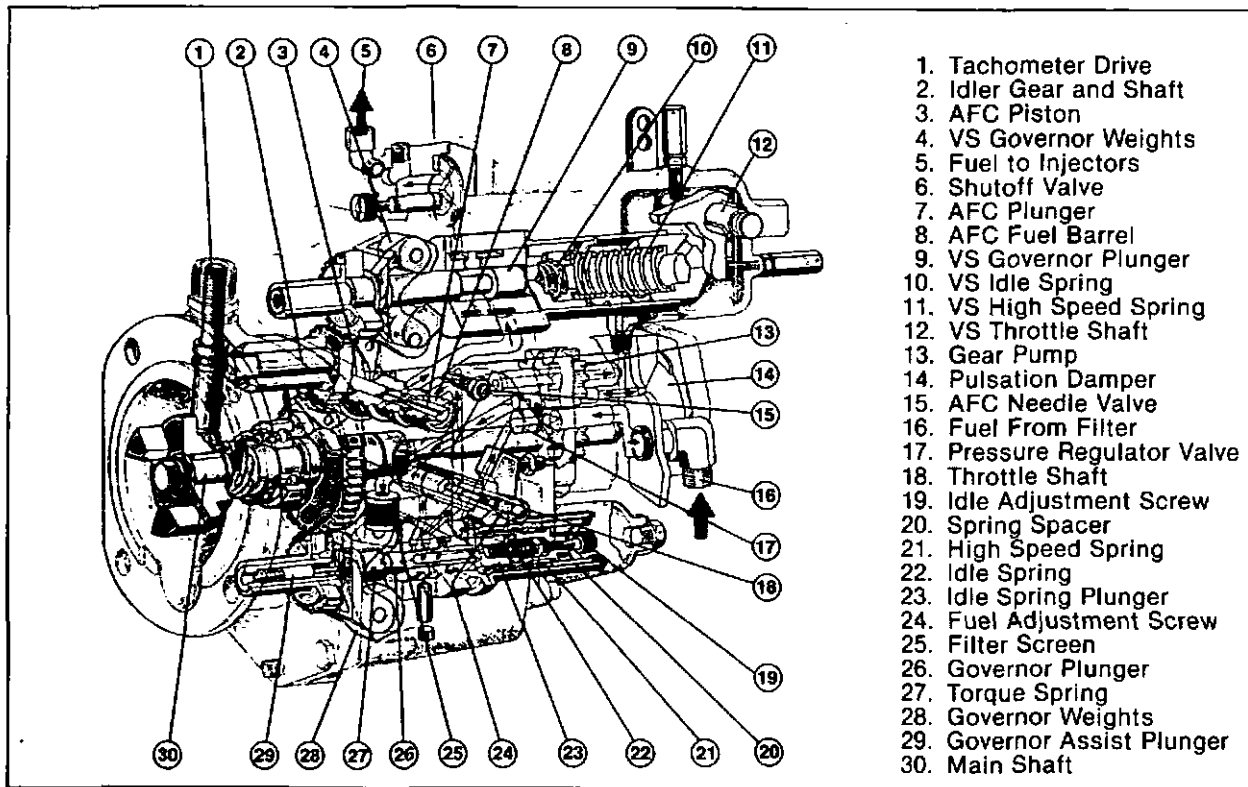
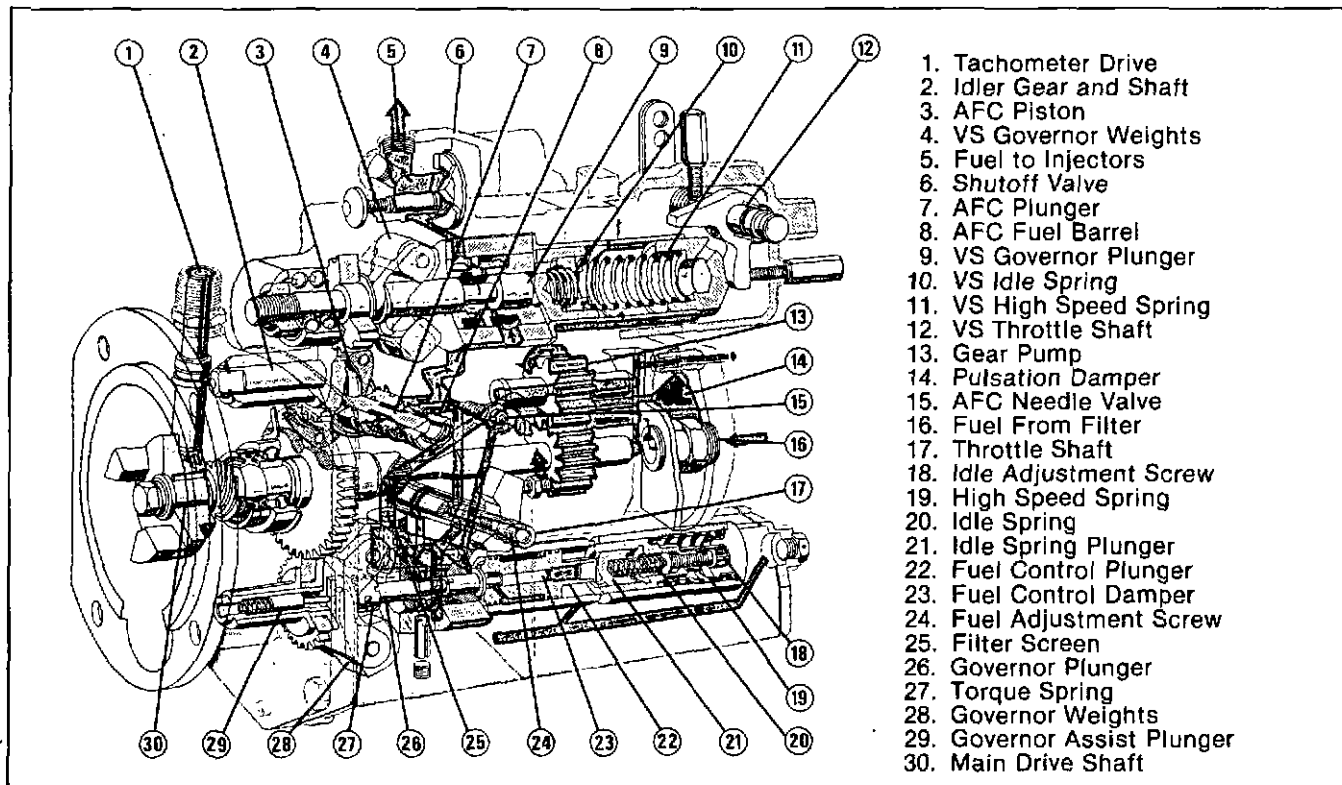
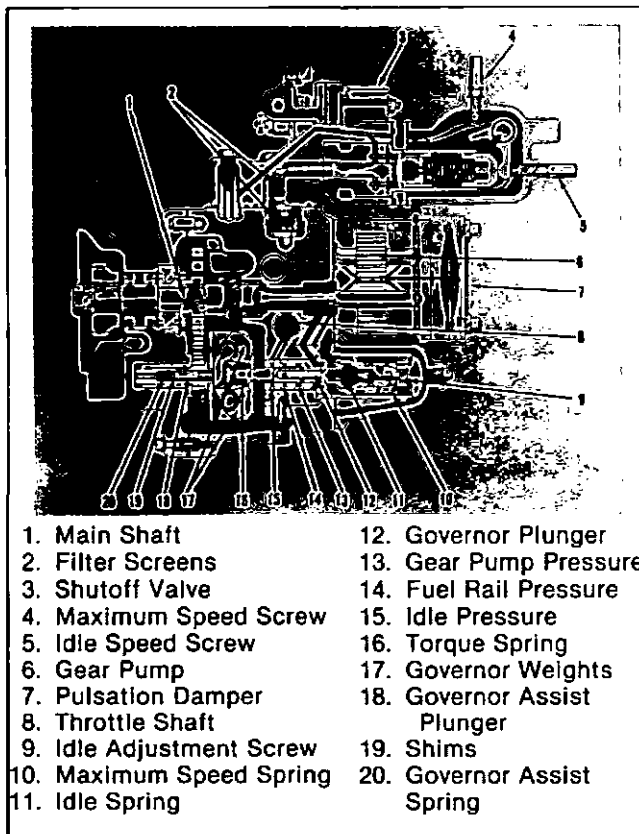

Fig. 15-3, (FWC-38). PT (type G) fuel pump with Variable Speed Governor and Air Fuel Control.
Fig. 15-4, (FWC-54). PT (type H) fuel pump cross-section.
Fig. 15-5 (FWC9A), PT (type G) with MVS Governor.
There are four mechanical variable-speed governors used with the PT (type G) fuel pump. The "Mechanical Variable-Speed (MVS)" governor is mounted directly on top the fuel pump or remote mounted near the fuel pump, Fig. 15-5. The "Variable Speed (VS)" governor is above the housing and front cover of a standard pump, Fig. 15-3. The PT (type H) fuel pump is now in use on the KTA-3067 engines. This pump is a **high flow** VS type of fuel pump, Fig. 15-4.
The VS governor has replaced the PT (type G) MVS, PT (type G) SVS and PT (type R) MVS. Fig. 15-3. This pump has a lower speed droop than those it has replaced.
The PT (type H) fuel pump is a high capacity VS type of fuel pump. This fuel pump was designed for the KTA-3067 engine, Fig. 15-4.
The adjustment for the different rpm can be made by a lever control or an adjustment screw. At maximum speed, this governor has a speed droop between full-load and no-load of approximately ten to twelve percent. A cross-section of this governor is in Fig. 15-5.
The (MVS) governor assembly mounts on top of the fuel pump. The fuel solenoid is mounted to the governor housing, Fig. 15-5. The governor can also be remote mounted.